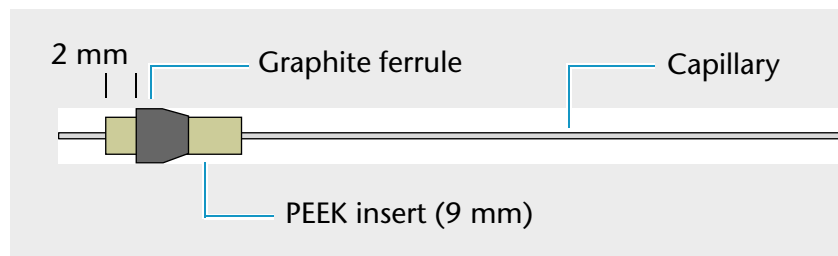

Fig. 41 Capillary, PEEK tube, and graphite ferrule assembly
1. Using tweezers, insert the ESI capillary into the PEEK tube insert and graphite ferrule. Adjust the graphite ferrule so that 2 mm of the PEEK tube insert is visible on the back end of the assembly. See Figure 41.